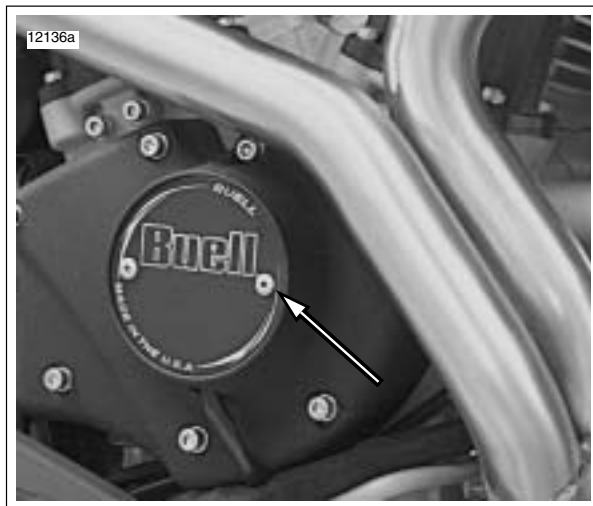

Figure 1-52. Timer Cover
1. See Figure 1-52. Remove timing plate cover.